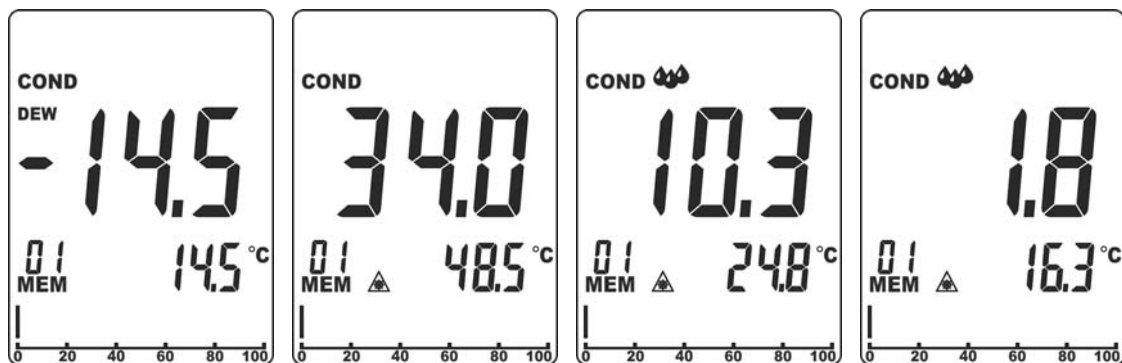

Fig. 11: Measurement of surface temperature difference
3. Press keys **RH%** and **MOI** at the same time to enter the Condensation measuring mode. The instrument shows the value of dew point temperature measured by the in-built sensor on the secondary display and indications “COND” and “DEW” appear on the display (see Fig. 11 – first screen). The main display always shows the difference between the value of IRT temperature and dew point temperature.
- If IRT temperature is **higher** than dew point temperature → **by more than 14°C (25°F)**, temperature difference (IRT-DP) is shown on the main display with no further indications (see Fig. 11 – second screen).
- If IRT temperature is **higher** than dew point temperature → **by 3°C÷14°C (5°F÷25°F)**, temperature difference (IRT-DP) is shown on the main display, indication “☁” appears on the display and the instrument gives out a sound to indicate a risk of condensation in the area (see Fig. 11 – third screen).
- If IRT temperature is **higher** than dew point temperature → **by less than 3°C (5°F)**, temperature difference (IRT-DP) is shown on the main display, indication “☁☁” appears on the display and the instrument gives out a double sound to indicate a high risk of condensation in the area (see Fig. 11 – fourth screen).